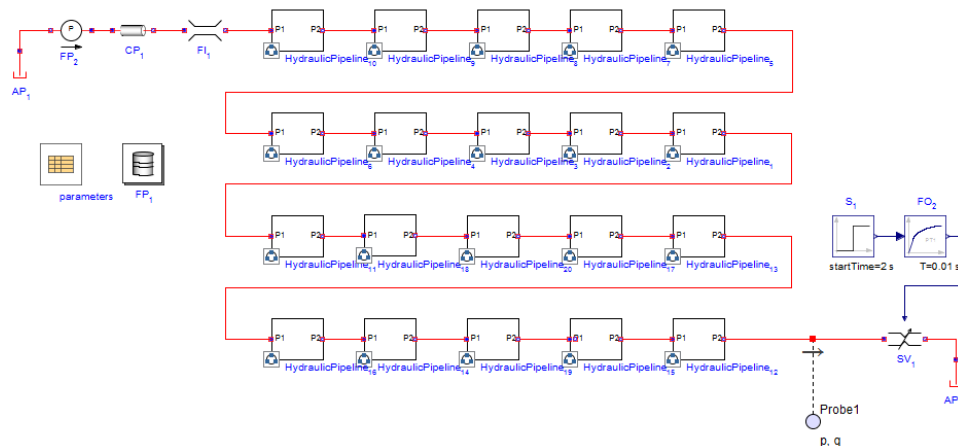
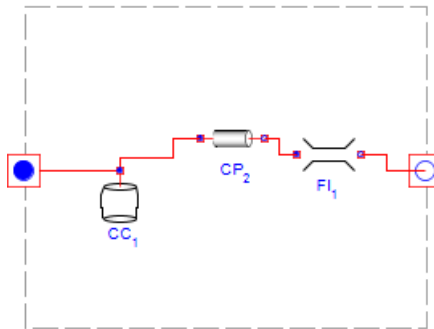

Figure 6.28: Water Hammer
Figure 6.29: Discretized Pipeline Segment
Each subsystem consists of a compliant cylinder, a pipe, and a fluid inertia component as shown in **Figure 6.29**. A pipeline (of total length L and volume V) with N segments has $N + 1$ pipes, each with a length,
1. Build the model with the components and connections shown in **Figure 6.28** and **Figure 6.29**.
- For the **Fixed Pressure** component (**FP₂** in **Figure 6.28**), set the pressure (P) to 500kPa.